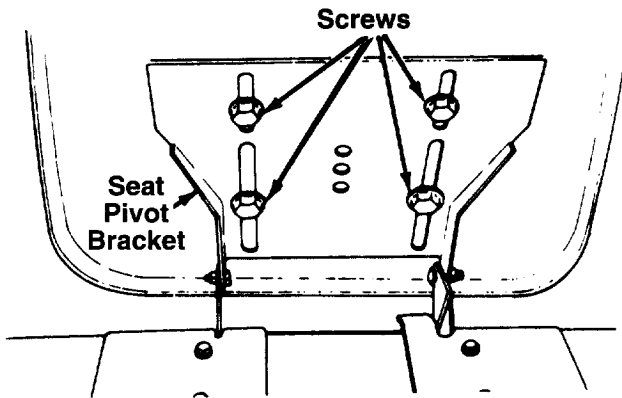

FIGURE 2.
- Remove the four screws which secure the seat to the seat pivot bracket. Turn the seat around and place in position against the seat pivot bracket, lining up the slotted holes in the pivot bracket with the holes in the seat. Select desired position for the seat, and secure with the four screws. See figure 2. ←